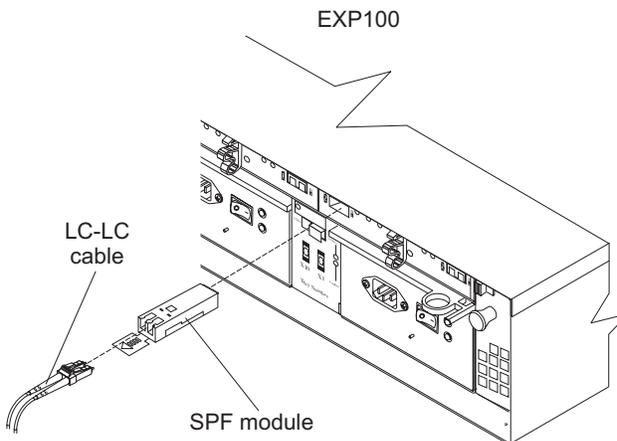

Figure 33. Installing an SFP module and connecting an LC-LC cable to the EXP100
3. Insert an SFP module into the SFP port located on the back of the EXP100; then, connect the other end of the LC-LC cable to the SFP module, as shown in Figure 33.